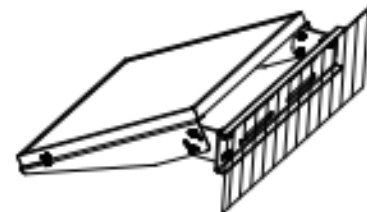

figure 2
Step3. Place PV module and mount assembly on mounting surface in the exact place to be installed. See **figure 2**. Use at least 4 fastening points. Use four M8 bolts, washers, lock washers and nuts if possible. Otherwise use wood screws, sheet metal screws, anchors, or moly bolts (not included).